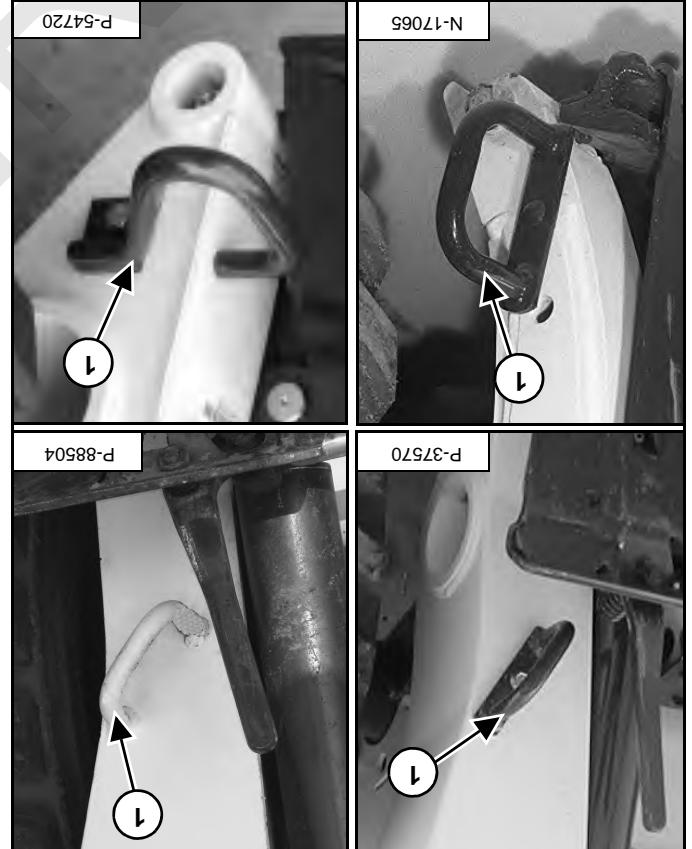

Figure 29
Install the correct hose guide (item 1) [Figure 29] on the loader.